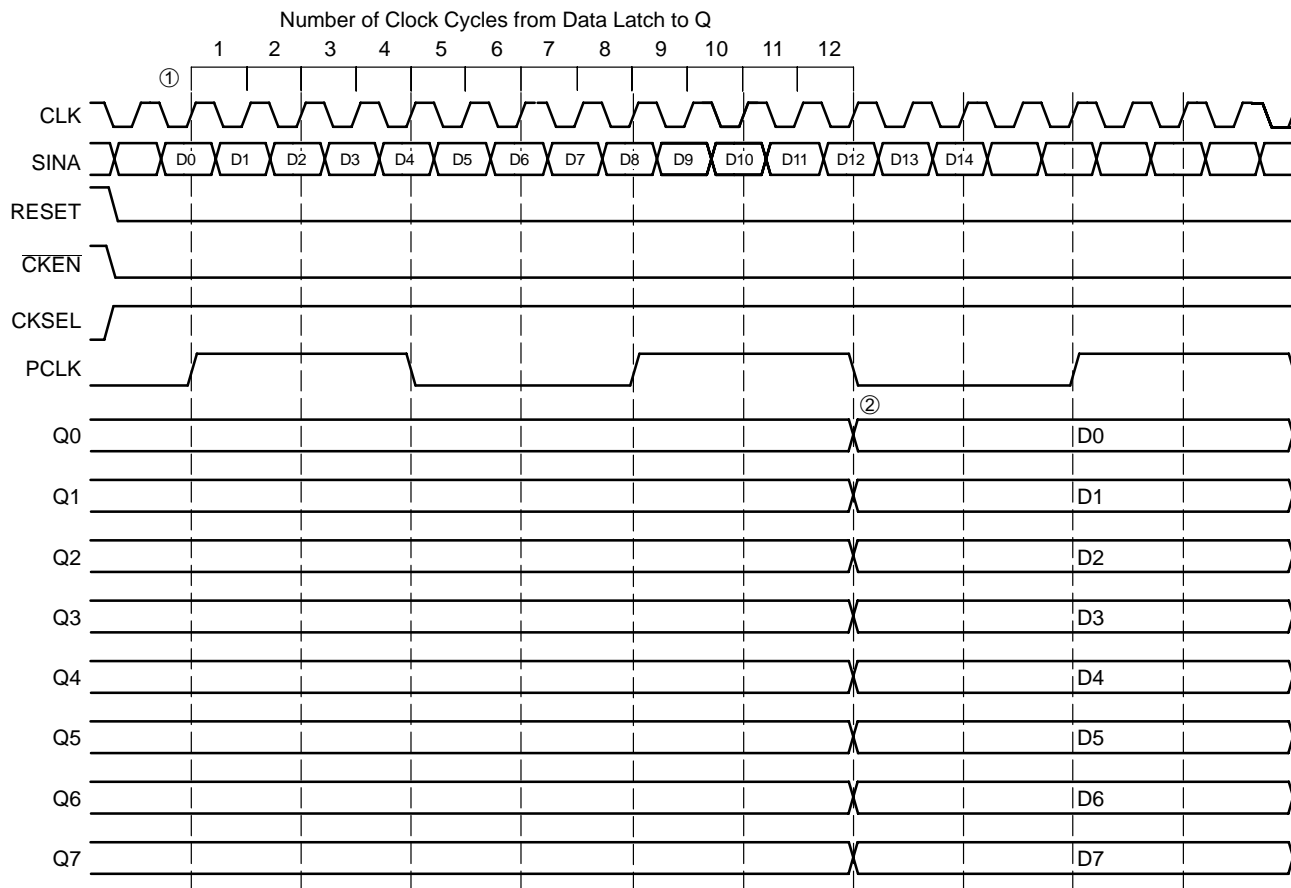

Figure 8. Timing Diagram A. 1:8 Serial to Parallel Conversion with CKSEL HIGH
Similarly, for CKSEL HIGH operation, the data is latched only on the rising edge of the clock and the time from when the serial data is latched^① to when the data is seen on the parallel output^② is 12 clock cycles (see Figure 8).